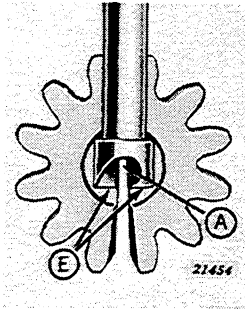

Figure 44
2. Turn both the kinker shaft "C" and cut-off and kinker shafts "D" so the arrows on ends of shafts point together. This will line up the slots in the shafts with the slot in twister pinion, see Figure 44.
The slots in cut-off and kinker shafts must line up with slot in twister pinions so wire may enter, see "A", Figure 44.
1. Check the sharp points "E", Figure 44, on the ends of the cut-off and kinker shafts and make sure the shafts are rotated back far enough so wire will not fracture causing wire to break behind the knot.